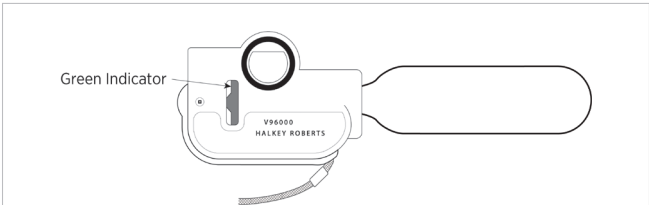

FIGURE 16B MD3810 E1 - STATUS INDICATOR
9. For model MD3810 E1 ensure the indicator is Green (see Fig. 16B) if the indicator is Red, the cylinder may have already been fired or is incorrectly fitted.